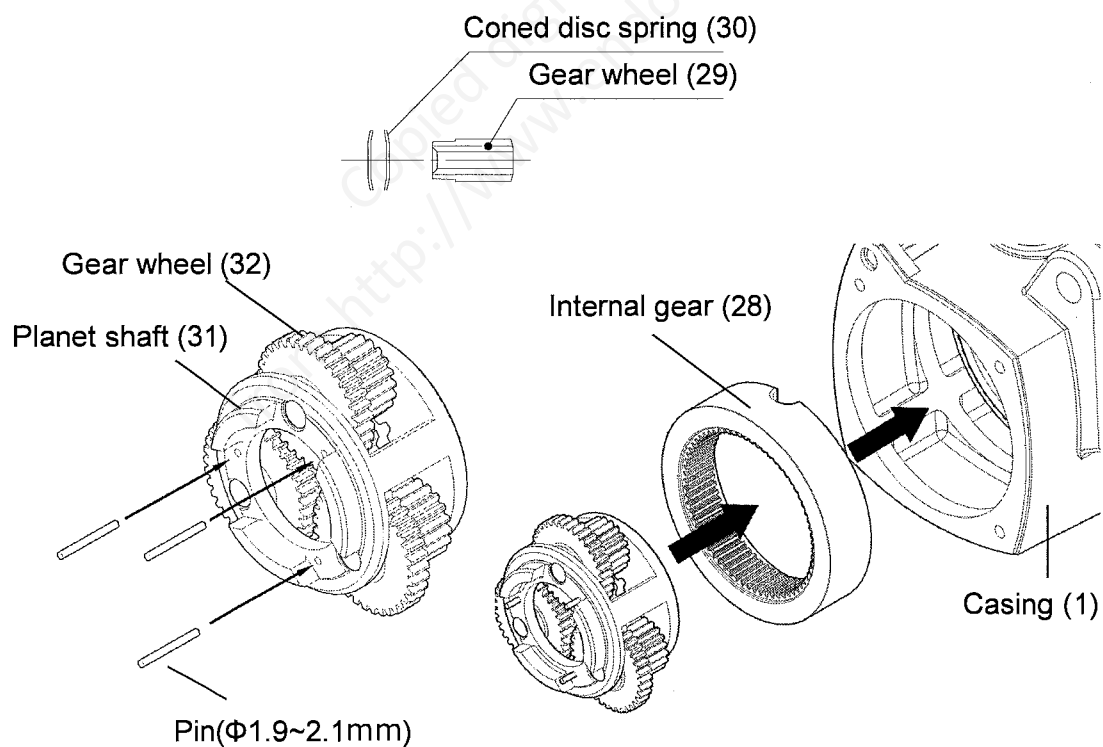

Fig.18
- ⑤ Fix Bushing(23) and Gear wheels(24) to Planet shaft(22), and install them in Casing(1).
- ⑥ Install Ball bearing(27), and lubricate the gear portion with grease.
- ⑦ Install Gear wheel(29), Coned disc springs(30) and Internal gear(28) in this order. See Fig. 18 for the setting direction of Coned disc springs(30).
- ⑧ Fix Gear wheels(32) to Planet shaft(31), and install them in Casing(1).
- a) Fix Gear wheels(32) to Planet shaft(31).
- b) Fix Gear wheels(32) onto Planet shaft(31) by inserting the pins into the holes of Planet shaft and Gear wheels respectively (See Fig. 18).
- c) With Gear wheel(32) fixed, insert Planet shaft(31) in Casing(1). Engage Gear wheel(32) with Internal gear(28).